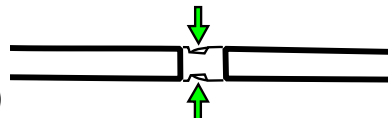

Figure 5.12
- To open the belt, squeeze both protruding buttons at the same time. The belt will open. (Fig 5.12)